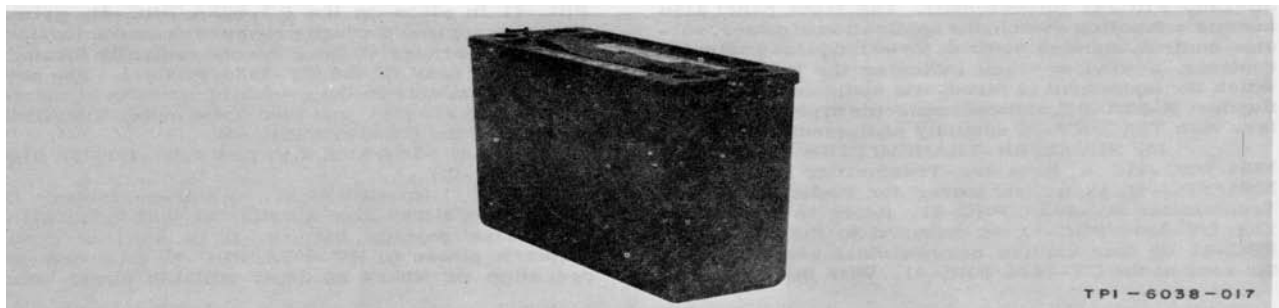

Figure 1-5. Storage Battery BB-451/U, Oblique View
(4) STORAGE BATTERY BB-451/U. (Refer to figure 1-5.)